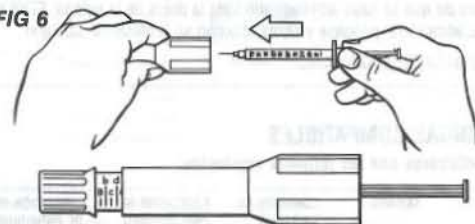

FIG 7
4. Screw the syringe housing and injector body together, taking care not to touch the firing button (Fig 7). Check again that the depth adjuster is in the correct position.